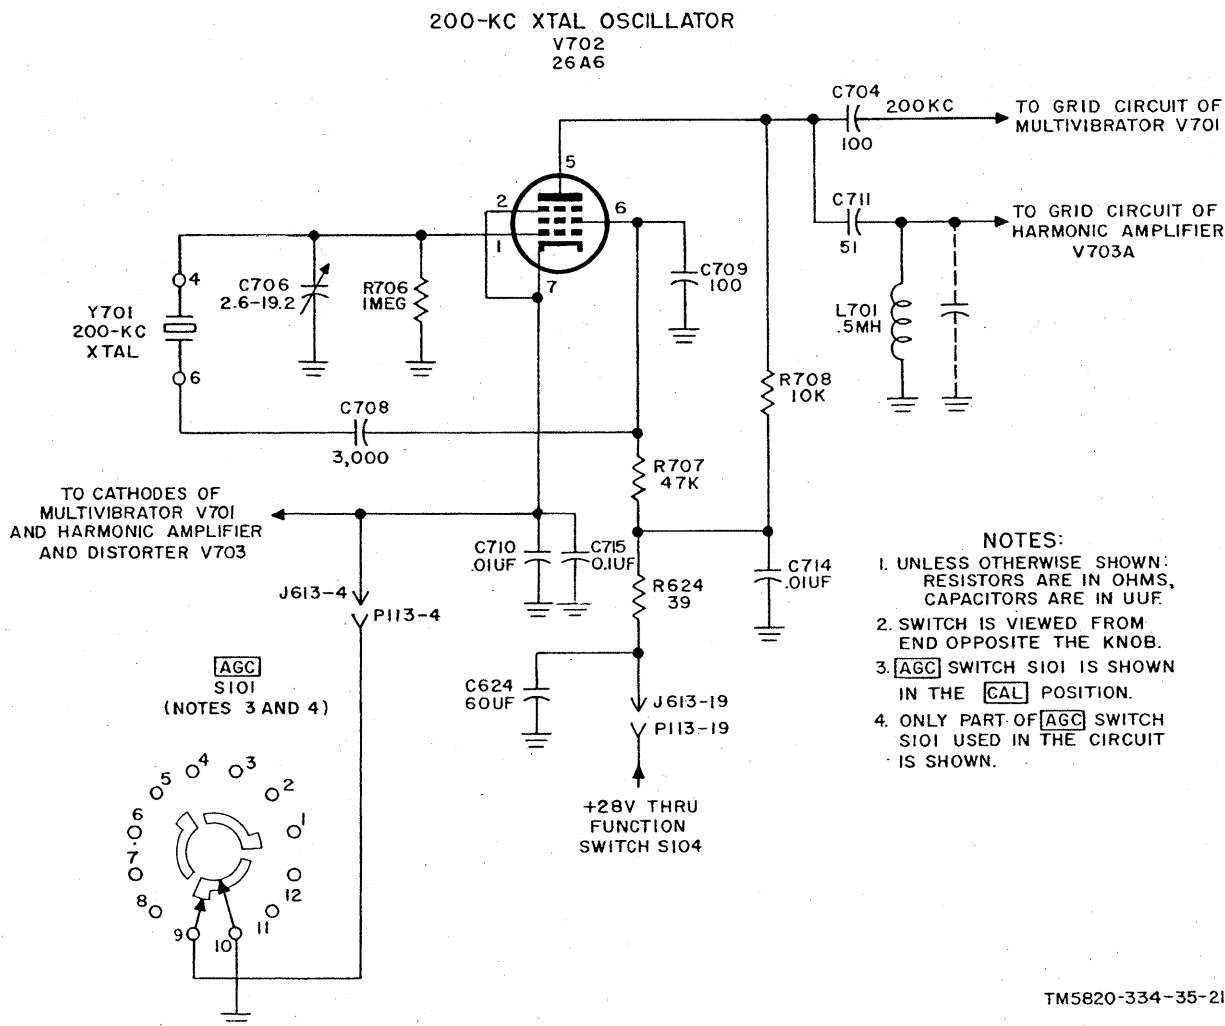

Figure 22. 200-kc crystal oscillator, simplified schematic diagram.
28. Calibration Oscillator Circuit (fig. 22, 23, and 24)
29. Crystal Oscillator V702, 200-Kc (fig. 22)